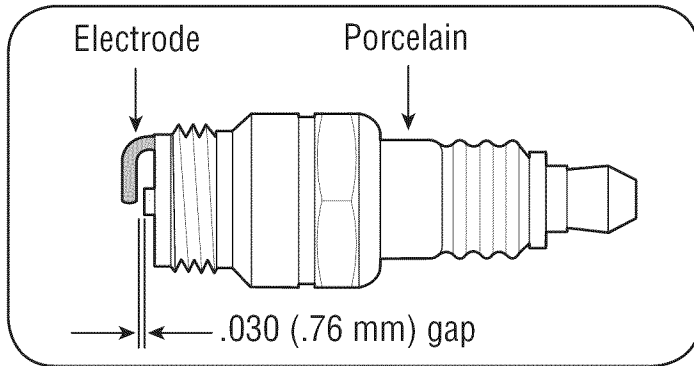

Figure 15
2. Remove and inspect the spark plug. Check gap to make sure it is set at .030". See Figure 15.